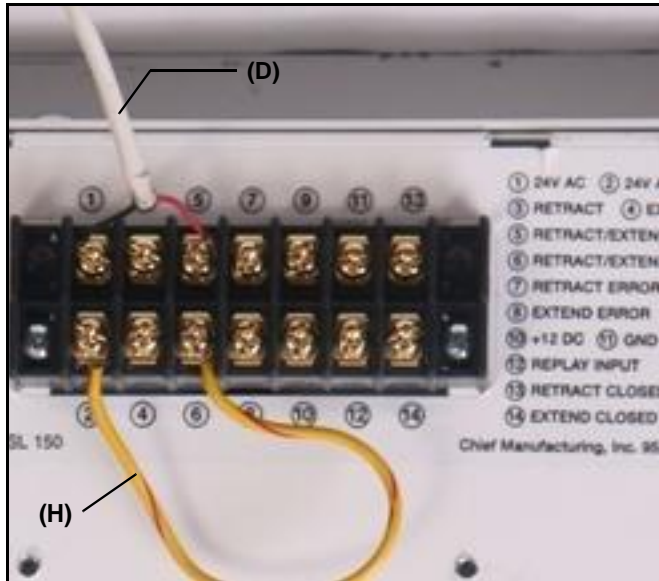

Figure 3
5. Place the jumper wire (H) on the contacts, and wire the push button assembly (D). (See Figure 3). Refer to Table 1: Wiring Table.
1. Unplug the SL151i's test power cord (J) (used for testing).
2. Remove the jumper wire and supplied push button wiring from the external terminal block. (See Figure 3)
**NOTE:** Any knockouts removed in the SL151i must be replaced with a supplied rubber grommet (G).
5. Secure cables as necessary using supplied mounting pads (E) and cable ties (B).